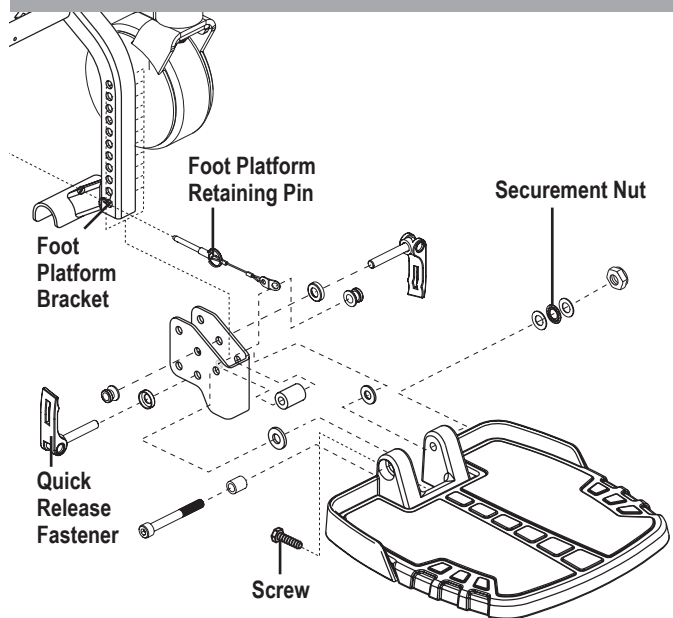
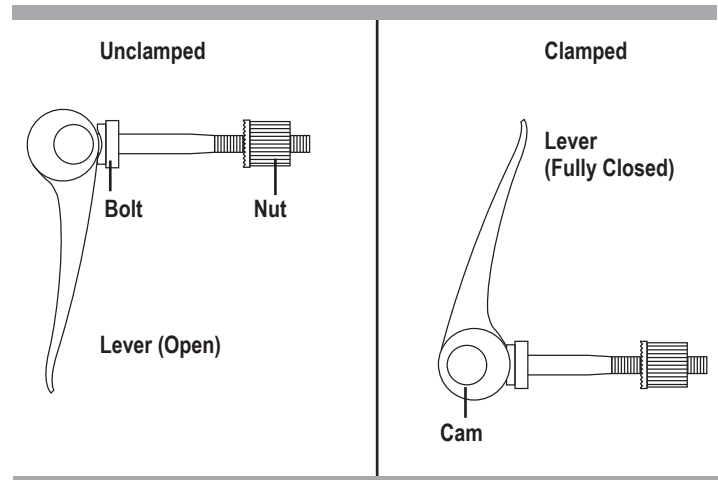

Figure 16. Foot Platform Adjustment
Figure 17. Quick Release Fastener Operation
- Remove the quick release fasteners from the foot platform bracket. **See figure 16.**
**Quick Release Fasteners:** The foot platform is attached to the power base with two quick release fasteners. **See figure 16.** Each quick release fastener consists of a bolt, a lever, and a nut. **See figure 17.** The lever has a cam on the end that allows it to clamp into place. The quick release fastener has two states: clamped and unclamped. When the lever is open, the quick release fastener is unclamped. When the lever is closed, the quick release fastener is clamped.